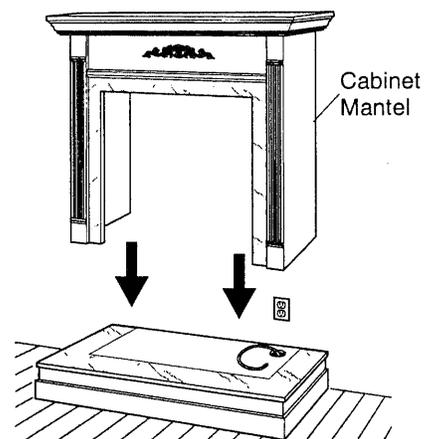

Figure 22 - Installing Cabinet Mantel
- Center cabinet mantel on hearth base (see Figure 22). Make sure mantel is flush against wall.